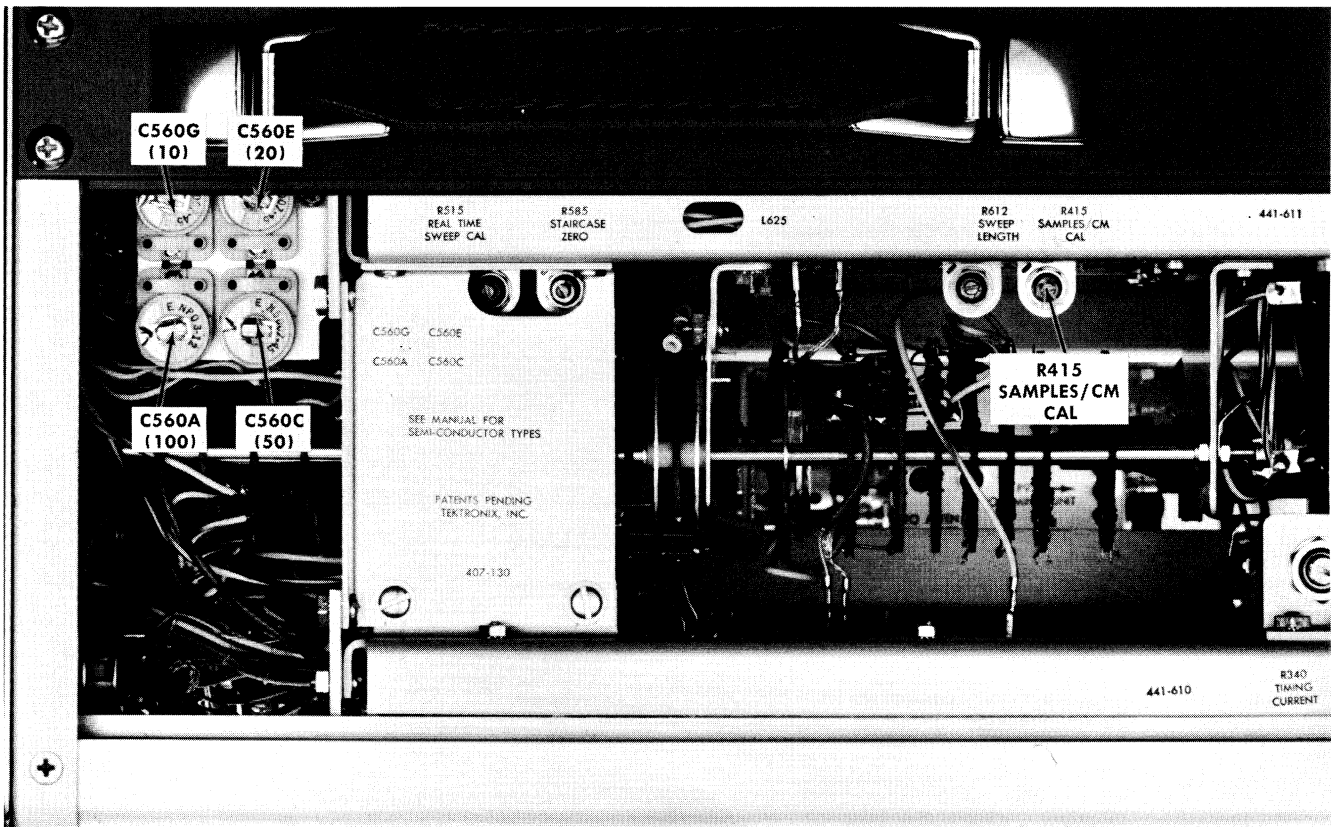

Fig. 5-26. Samples/Cm adjustments on top of Type 5T3.
h. **Adjust** R415 (SAMPLES/CM CAL) if 0.5% accuracy is desired and the display is not as illustrated. Fig. 5-26 shows the adjustments for this step.